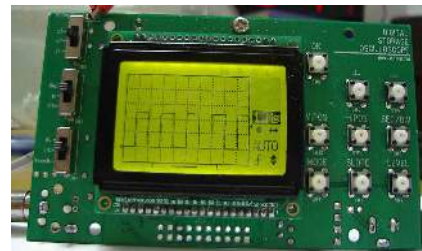

Fig. 3
- 2) Connect the red clip to the test signal terminal located at top-left corner of the panel, as shown in Fig. 3.
- 5) Press [V.POS] button, adjust 0V indicator to the second to last vertical scale as shown in Fig. 3.
- 7) Set Y sensitivity switch 2 (top switch) to X2 position. Waveform similar to that shown in Fig. 3 should be seen.